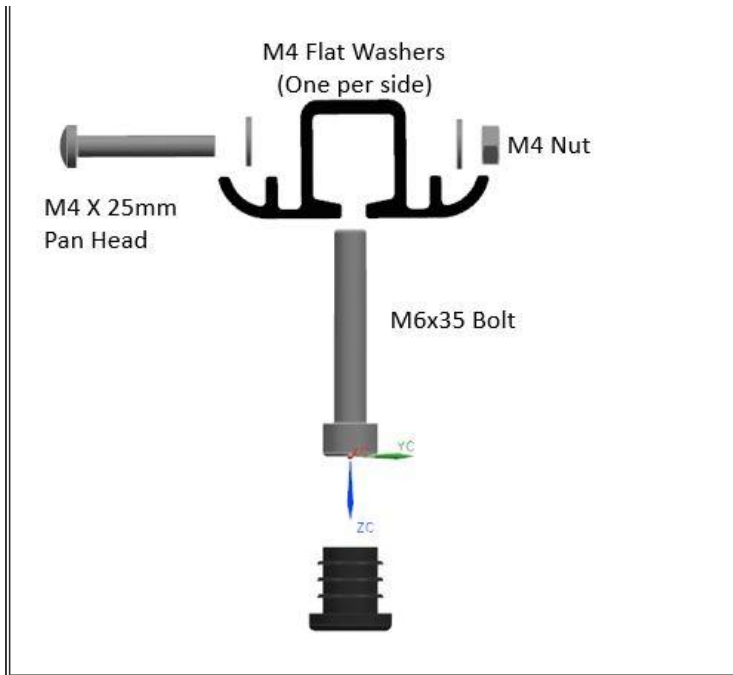

Figure 6: Bolt Installation
4. Install M4x25mm pan head machine screw, washer and nut as seen in Figure 6 with loctite applied